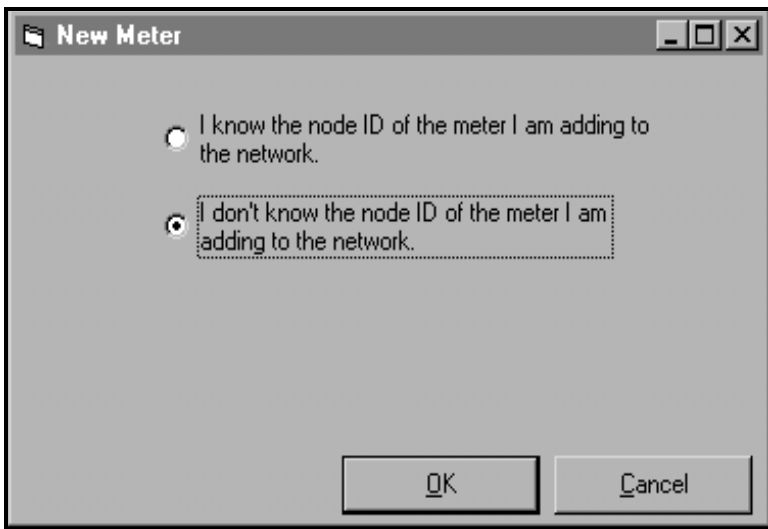

Figure 36: The Node ID Dialog Box
5. After selecting the “New” and “Meter” options, the dialog box shown in Figure 36 appears. Select the “I don’t know the node ID of the meter I am adding to the network” radio button and then click on the [OK] option button.
- a. At the Node ID dialog box (see Figure 36 on page 49), select the “*I know the node ID of the meter I am adding to the network*” option and click on the [OK] option button.